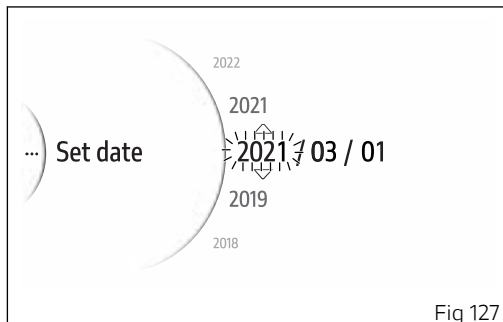

Fig 127
- Use buttons (1) and (2) from the Interactive Menu to select the "Setting menu" item and press ENTER (3).
- Select the "Date and time" item and press ENTER (3).
- Select the "Set date" item and press ENTER (3).
The first parameter of the date (Fig 127) starts flashing and is displayed with two arrows placed above and below it; the available values for the selected parameter are also displayed. Use buttons (1) and (2) to scroll and select the desired value. Press ENTER (3) to confirm and move on to the following parameter.